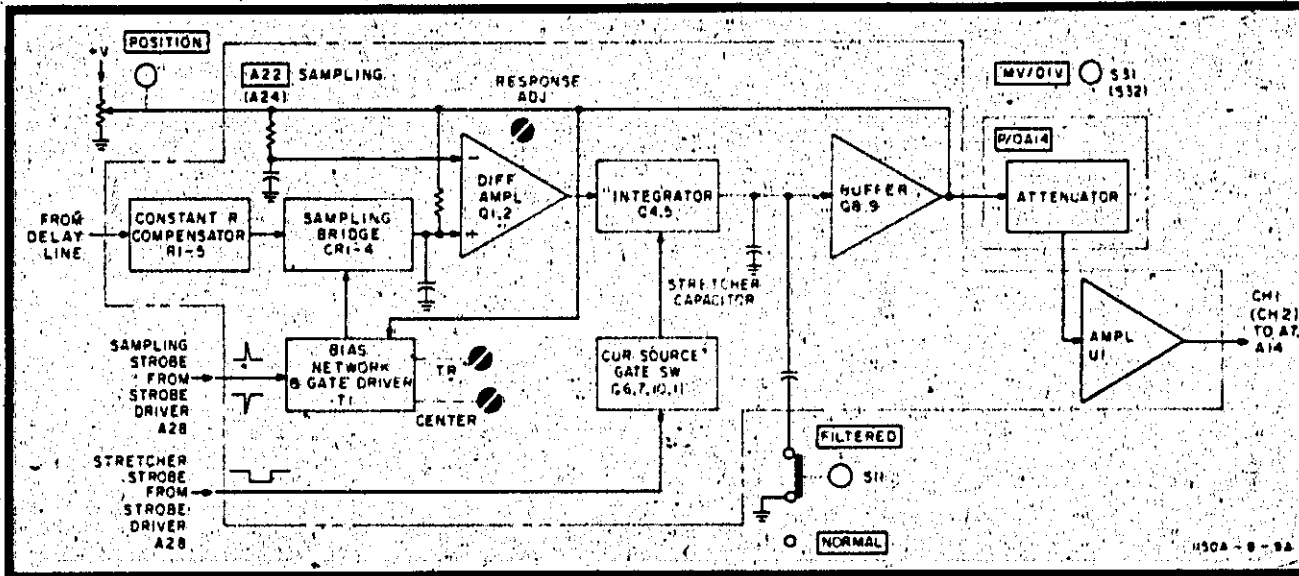

Figure 4-23. Detailed Block Diagram, Assemblies A22 and A24
**4-73. SAMPLING ASSEMBLIES A22 AND A24.** (See figure 4-23.)